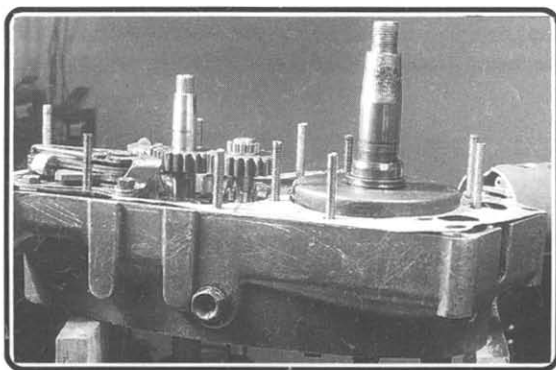

Figure 39. Crankcase guide studs.
- 22.10. Saw the heads off some long metric bolts to use as studs to guide the magneto half of the crankcase onto the layshaft. These eleven studs will also help to hold the gasket in place during assembly. One of the bolts should have a slot sawed into the end of it so it can easily be removed with a screwdriver. See Figure 39. Place a gasket on the studs.
In figure 39, the gasket is placed on the guide studs.
- 22.11. Place the 13 rollers on top of the *layshaft shim (4-128)*. Figure 39 shows the rollers in position on the layshaft. Putting transmission oil (*non hypoid*) or grease on the rollers will cause them to stick to the shim and the layshaft and there is less chance of them becoming dislodged during assembly. If you use grease, the rollers will stick better but may also stick to the crankcase if they fall off and you may not hear them rolling around when you shake the crankcase to see if there are any loose parts after assembly.